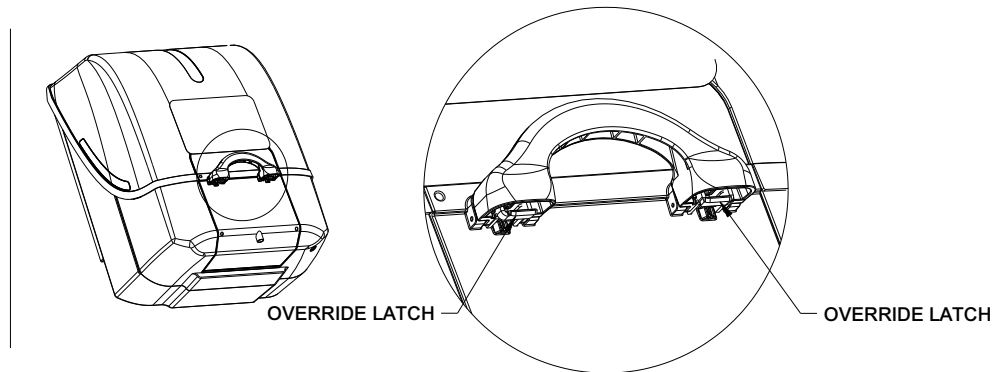

Figure 15
2. To inspect Nozzle Assembly, open Tray Assembly utilizing Supervisory Override Latch. Override Latches are located on underside of handle (Ref Figure 15). Both latches must be depressed to allow tray to open. **Note:** The only way to open Tray Assembly without breaking easy Break Security Tag and activating Fluid Cartridge is to use the Override Latch.